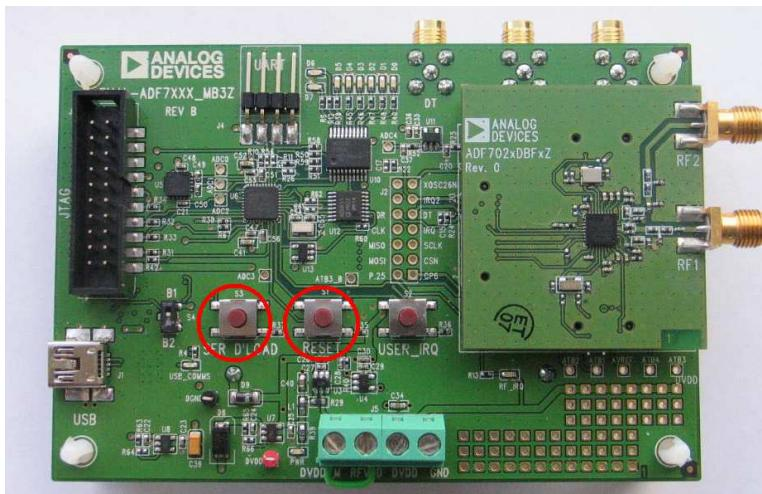

Figure 25
5. “SER DLOAD” and “RESET” buttons will be referenced and can be found as shown in Figure 25.